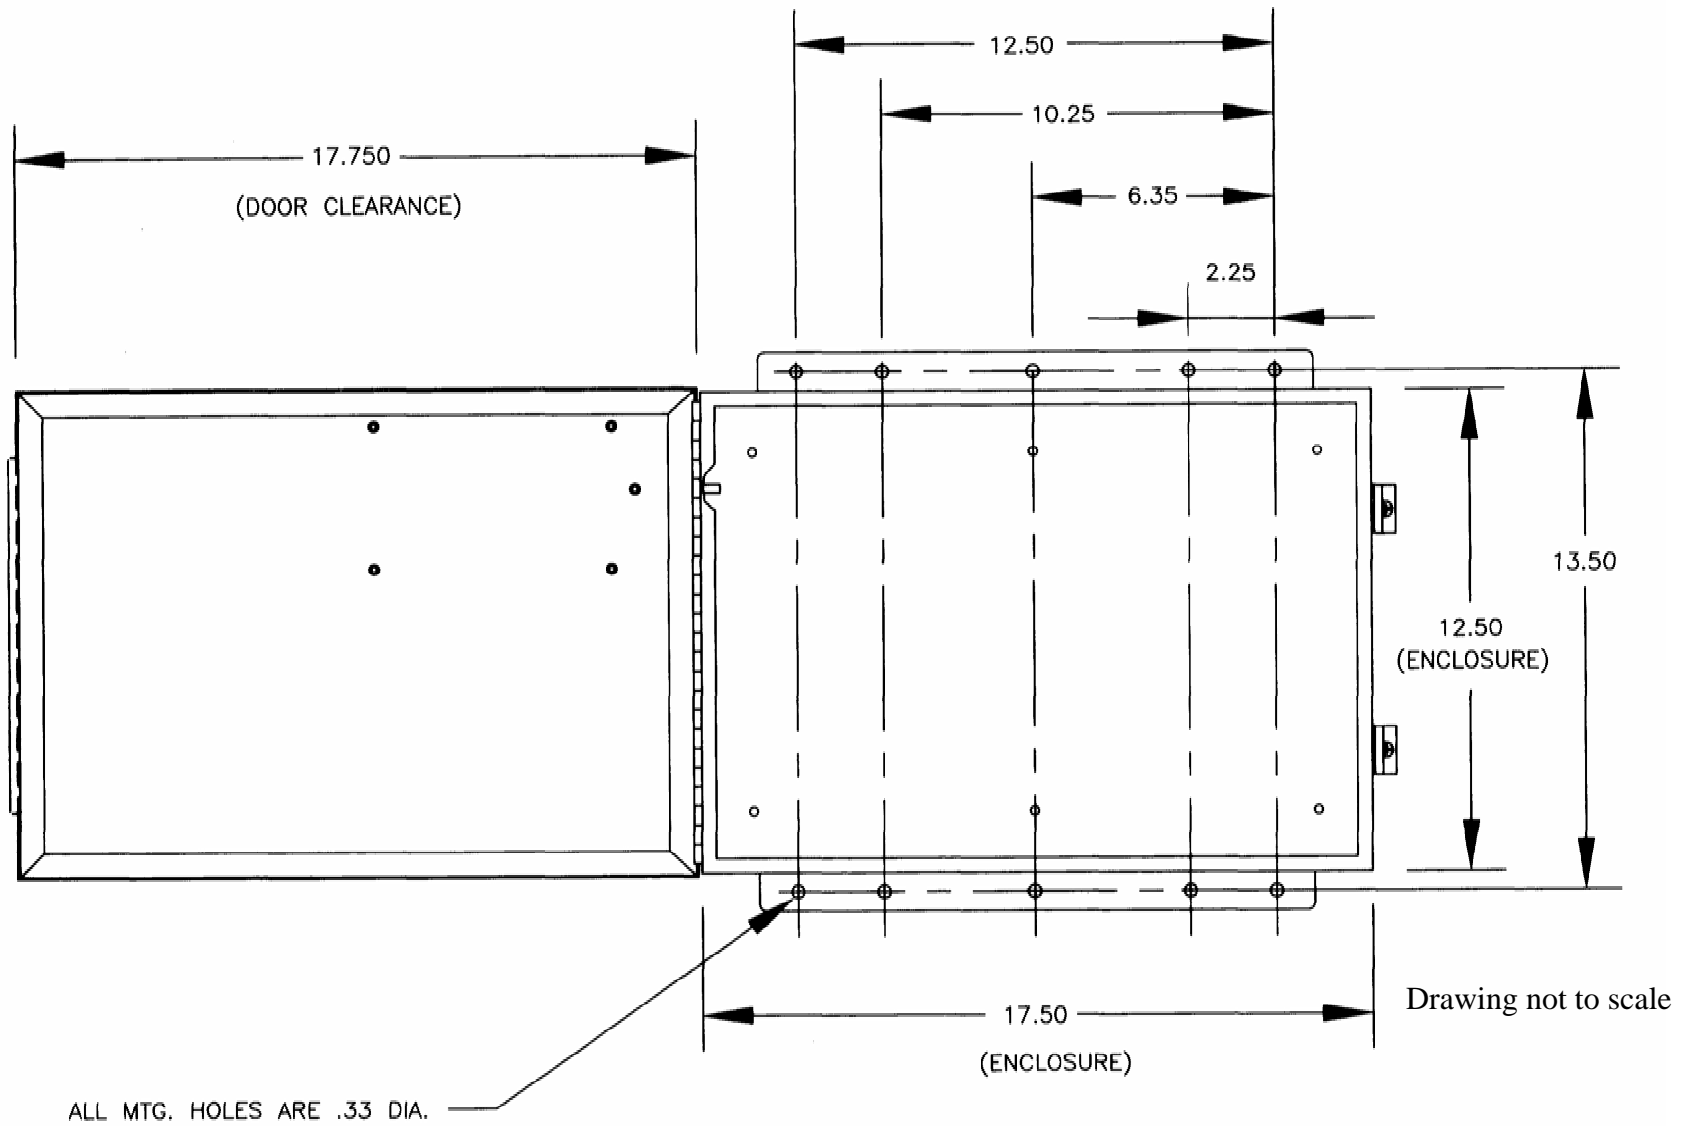

Figure 4.2 Receiver Mounting Details
See Figure 4-2. Receiver Mounting Details. Allow room in mounting the receiver for the door to swing open.
Mount receiver unit cabinet securely to mounting surface. Actual cabinet mounting dimensions are shown on Figure 4-2. Receiver Mounting Details.
2. Position the receiver. Locate as far as possible from exposed trolley wire and sources of electromagnetic or radiated noise. Cabinet mounting dimensions and mounting template is on next page see Figure 4-2. Receiver Mounting Details. Antenna should be kept as clear as possible of any metal object.